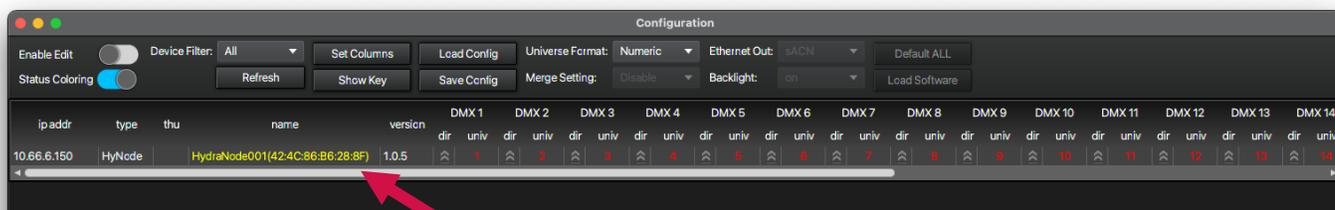

Figure 1 Status Coloring
- Step 3. The connected HydraNode will be displayed. Confirm the current software version. If Status Coloring is enabled, the device name will be colored yellow if the software needs to be updated; see Figure 1.